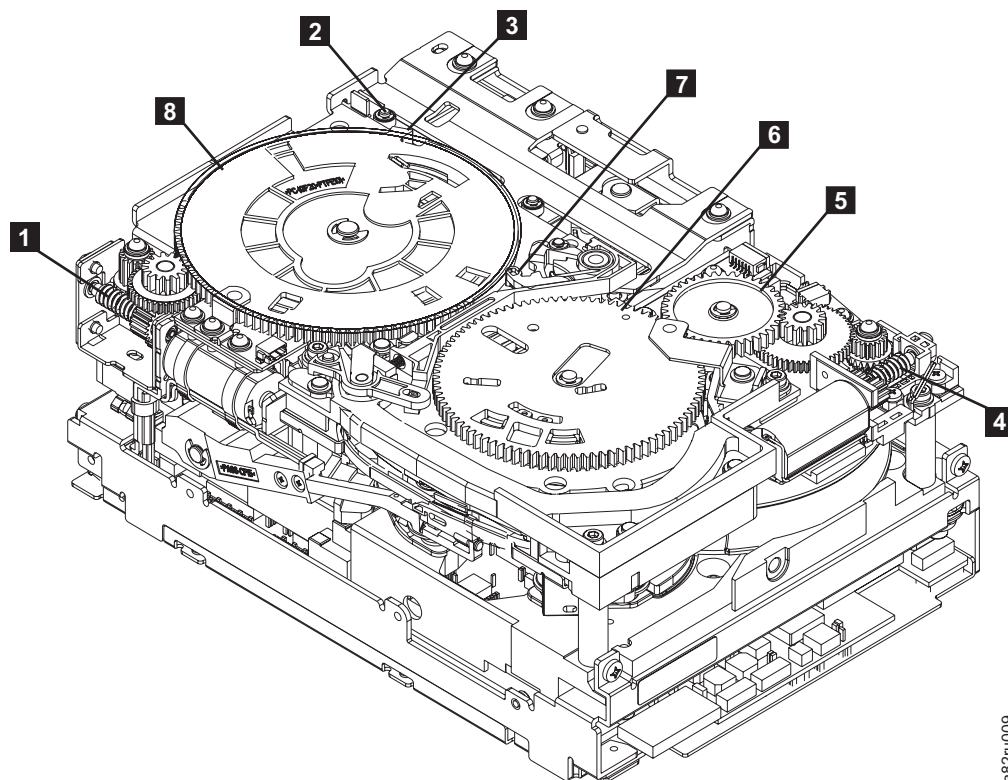
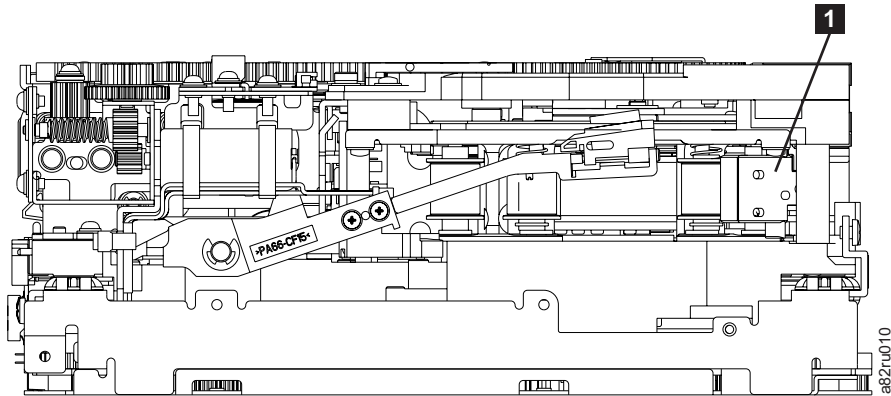

Figure A-16. Drive with cover removed to reveal gear train.
Figure A-17. Leader Block Assembly (LBA)
5. Locate the threader motor worm gear (**4** in Figure A-16 on page A-17) on the rear of the drive. Use your finger to rotate the threader motor worm gear and slowly rotate the threader mechanism gear (**6** in Figure A-16 on page A-17) clockwise. This rotates the threader motor worm gear (**4** in Figure A-16 on page A-17) clockwise, drawing the LBA into the cartridge.
6. As the tape leader block assembly (LBA) is secured in the cartridge, you should hear the LBA retention spring clips click into place. If you do not hear the click, continue rolling until the threader motor worm gear (**4** in Figure A-16) stops. The LBA is in the correct position.
- a. Loader mechanism gear (**6** in Figure A-16) nearest the front of the drive that actuates the cartridge loader mechanism.
- b. Position of the rotate stub (**3** in Figure A-16).
- c. Front loader motor worm gear (**1** in Figure A-16). Rotating this gear allows the loader mechanism gear (**8** in Figure A-16) to turn.
8. Rotate the loader motor worm gear (**1** in Figure A-16) to turn the loader mechanism gear (**6** in Figure A-16) counterclockwise. Continue turning until the rotator stub (**3** in Figure A-16) loses contact with the lever (**7** in Figure A-16). This releases the LBA leader pin.
9. Rotate the threader motor worm gear (**4** in Figure A-16 on page A-17) to turn the threader mechanism gear (**6** in Figure A-16 on page A-17) counterclockwise. This moves the LBA out of the cartridge and past the read/write head. Stop this rotation when the LBA is near the tape guide roller nearest the rear of the drive shown as **1** Figure A-17.
10. Continue rotating the loader motor worm gear (**1** in Figure A-16 on page A-17) until the rotator stub (**3** in Figure A-16 on page A-17) is positioned as shown. Notice that the rotator stub (**3** in Figure A-16 on page A-17) is nearly aligned with the cartridge loader tray guide bearing (**2** in Figure A-16 on page A-17).